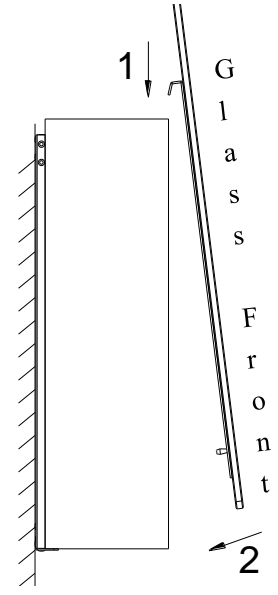

Fig. 7
8. Install the fireplace front as pictured. (Fig. 7) Secure the fireplace front with 2 M4x8 screws in the tabs on top of the fire box